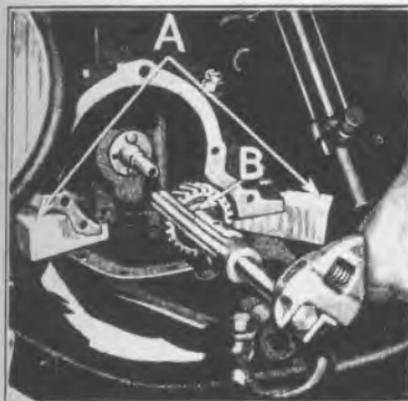

Fig. 276
- (f) Lift up front end of engine with chain falls and motor lifting hooks sufficiently high so that the small time gear can clear front wall of crankcase. Brace engine in that position by inserting two blocks of wood between cylinder and crankcase (See "A" Fig. 276).